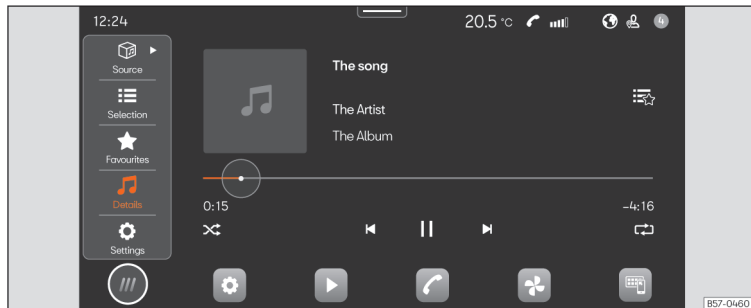

Fig. 165 Schematic diagram: Media view
- Press **HOME** > ► >>> **Fig. 165**.